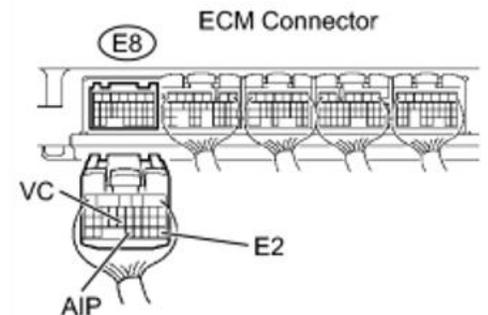

Figure 2 - ECM Connections
- 2) Disconnect Connector E8 as identified in Figure 2.